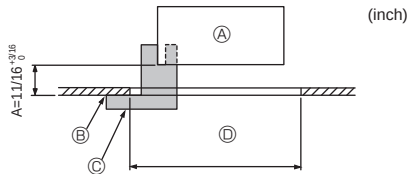
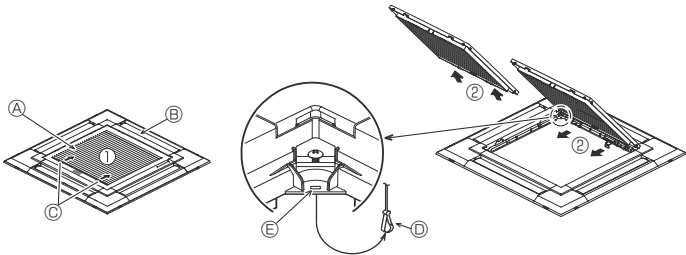
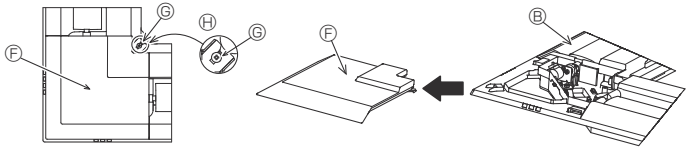

Fig. 6-2
Fig. 6-3
Fig. 6-4
①	Grille	1	950 × 950 (mm), 37-13/32 × 37-13/32 (inch)
②	Gauge	1	Divided into 4 parts
③	Screw (4 × 16)	1	For PLFY-EP-NEMU1-E
④	3D i-see Sensor corner panel	1	For PLFY-EP-NEMU1-E
6.2. Preparing to attach the grille (Fig. 6-2)
- With the gauge ② supplied with this kit, adjust and check the positioning of the unit relative to the ceiling. If the unit is not properly positioned relative to the ceiling, it may allow air leaks or cause condensation to collect.
- ① Main unit
② Ceiling
③ Gauge ② (inserted into the unit)
④ Ceiling opening dimensions
6.2.1. Removing the intake grille (Fig. 6-3)
- Slide the levers in the direction indicated by the arrow ① to open the intake grille.
- With the intake grille in the "open" position, remove the hinge of the intake grille from the grille as indicated by the arrow ②.
6.2.2. Removing the corner panel (Fig. 6-4)
- Loosen the screw from the corner of the corner panel. Slide the corner panel as indicated by the arrow ① to remove the corner panel.
[Fig. 6-3] [Fig. 6-4]